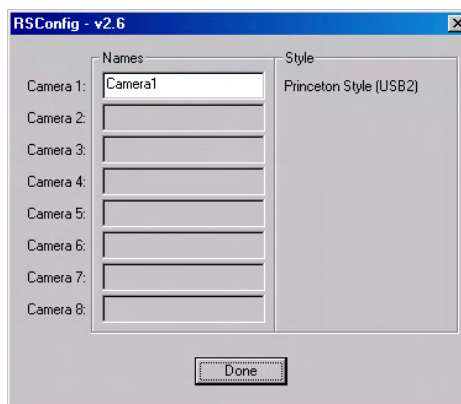

Figure 211. RSConfig dialog box
4. When the RSConfig dialog box (Figure 211) appears, you can change the camera name to one that is more specific or you can keep the default name "Camera1". When you have finished, click on the **Done** button.